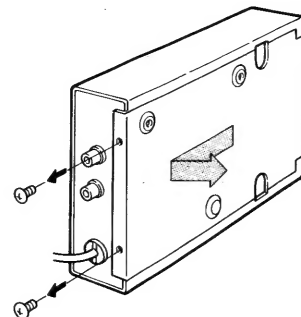

Fig. 1
1. Remove the two screws indicated in Fig. 1 from the rear panel of the TV-R7000. Slide and pull the unit's cover out as shown in Fig. 1.